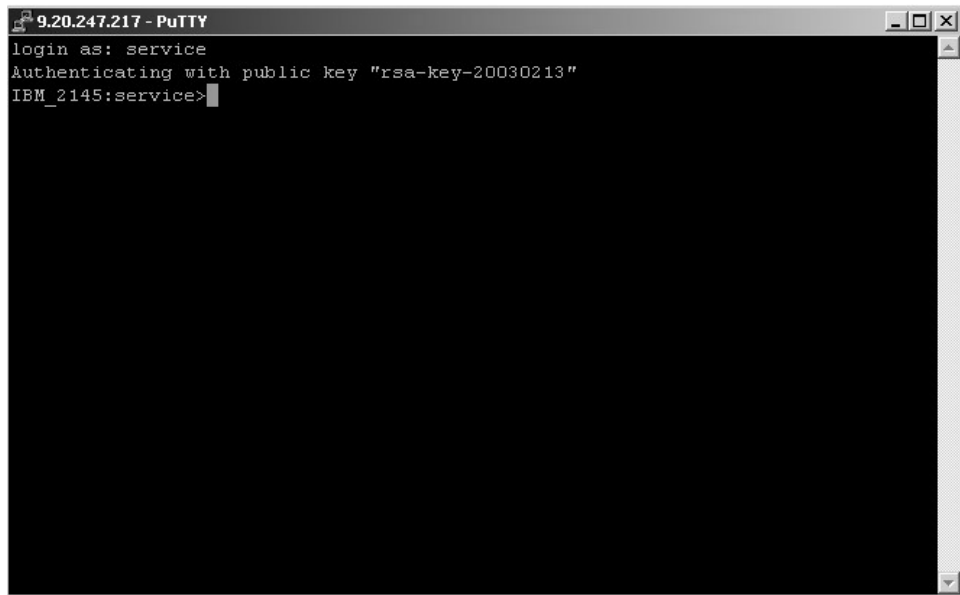

Figure 29. Command line screen for service
5. The command line screen for service is displays. See Figure 29 on page 14.